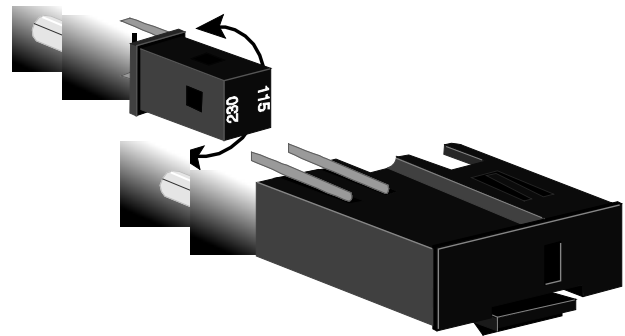
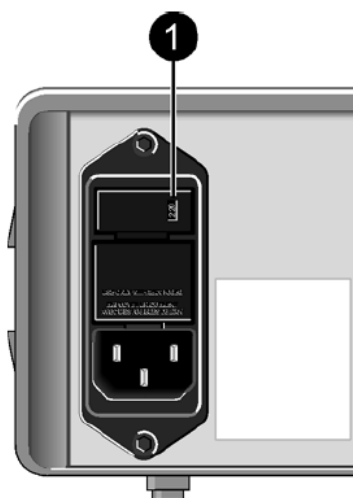

Figure 17-2: Reversing the fuse holder
Figure 17-3: Selected line voltage 1
- Remove the fuse insert (labelled 115 V / 230 V) (Figure 17-2), reverse it and reinsert it with the correct voltage rating shown at the rear of the fuse holder (Figure 17-3).